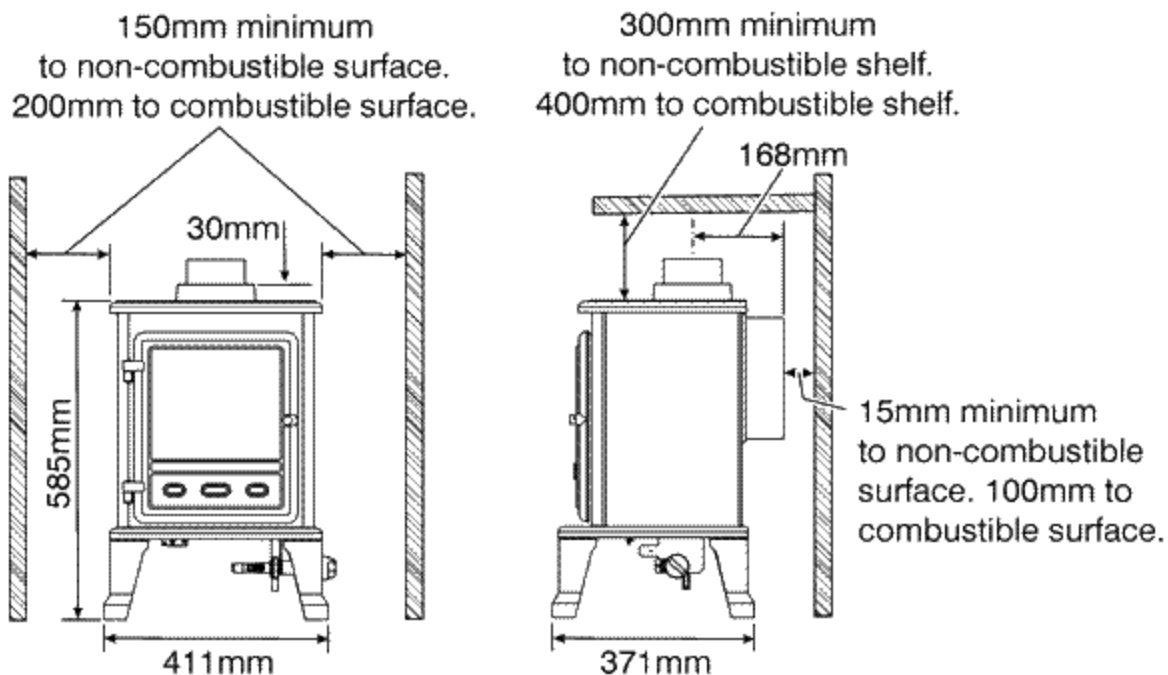

Figure 1. Dimensions and Clearances
**Do** provide the minimum clearances shown in figure 1.